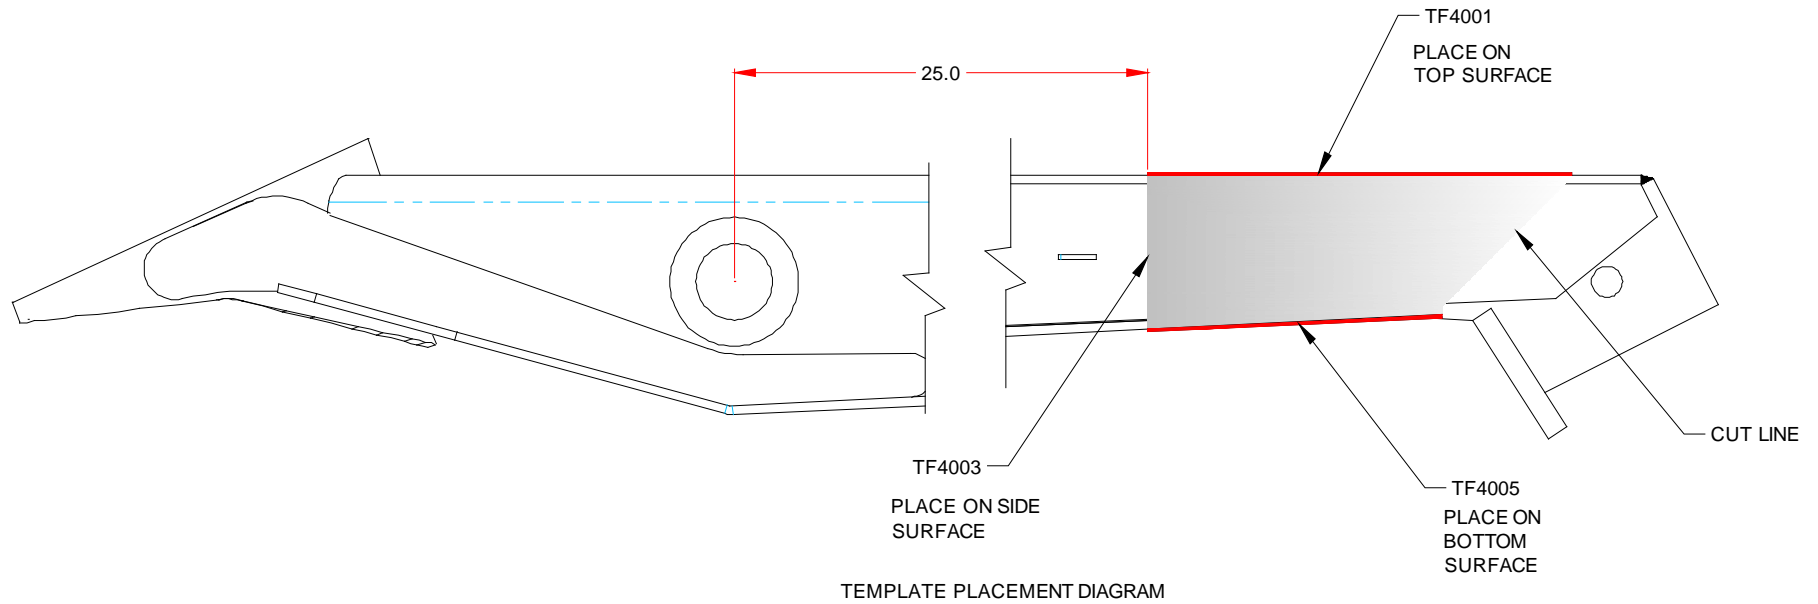

Figure 1 Cut Location
3. Position TF4001, TF4003, and TF4005 cut templates on the leg as shown in Figure 1 and mark leg.